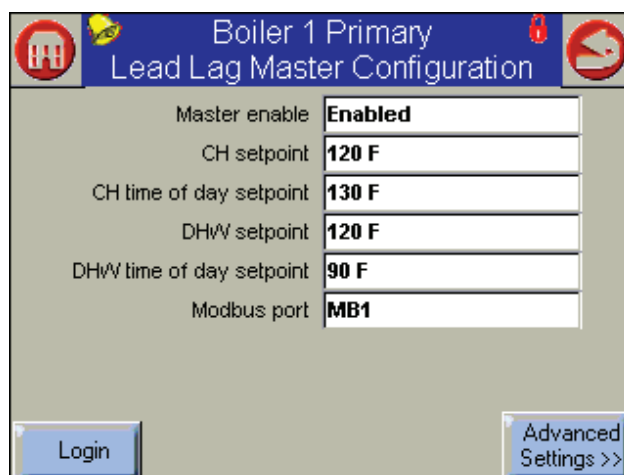

Fig. 120 – Lead/Lag Master Configuration
- Press the Configure button. The display will present the Lead/Lag Master Configuration Screen (Fig. 120).